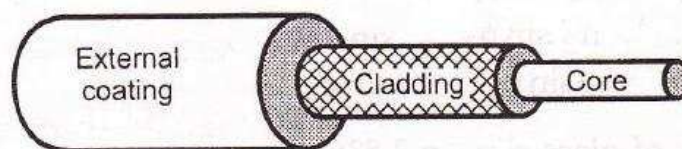

Fig. 1.6.6 Single optical fiber structure
- x A single fiber structure is shown in Fig. 1.6.6. It consists of a solid dielectric cylinder with radius 'a'. This cylinder is called as **core** of fiber. The core is surrounded by dielectric, called **cladding**. The index of refraction of core (glass fiver) is slightly greater than the index of refraction of cladding.